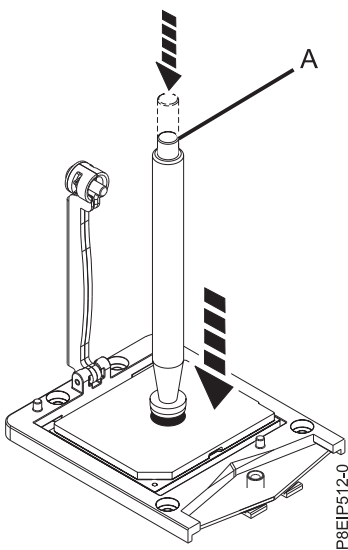

Figure 52. Locking the vacuum pen to the system processor module
8. Lower the vacuum pen tool onto the system processor module. Fully press the top of the pen (**A**) and hold the pen in the center of the system processor module as shown in Figure 52. Release the top of the pen to fasten the pen onto the system processor module.